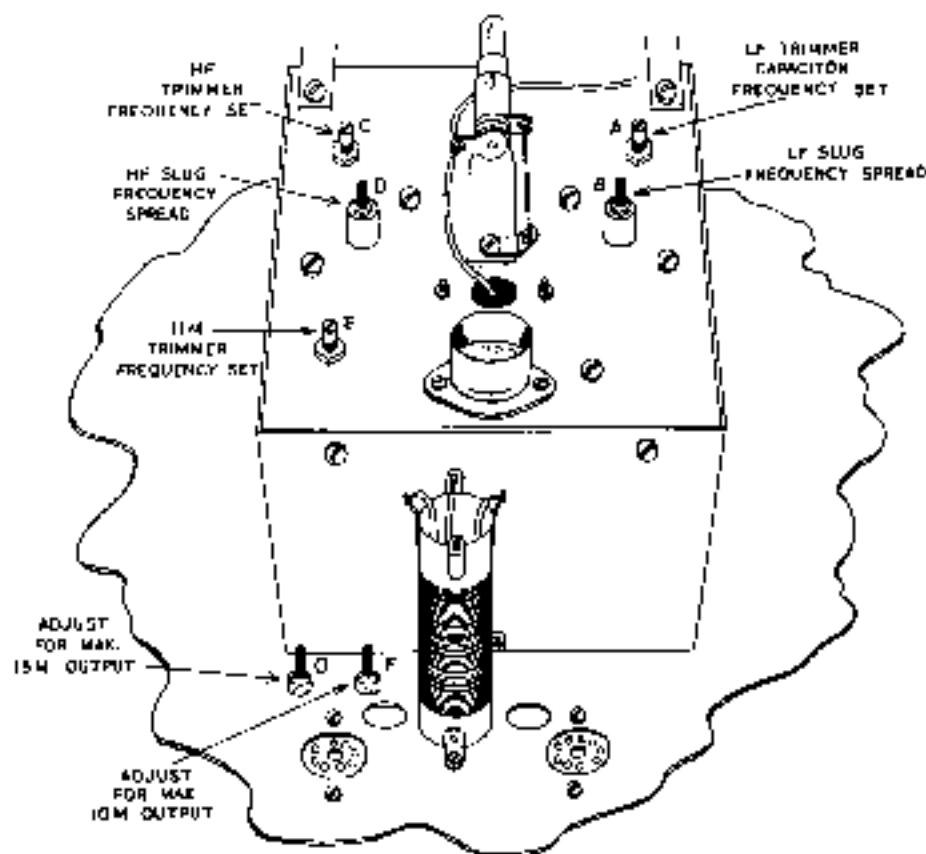

Figure 20
During the alignment procedure, the **DRIVE** control should be fully counterclockwise, the **CW-PHONE** switch should be on **CW** and the **PLATE** switch should be **OFF**. **NOTE:** If a frequency meter is used for calibration, the frequency meter signal and the **VFO** signal should be zero beat against each other in a receiver with the **BFO** off. When using crystals for calibration, set the receiver to the crystal frequency with the **BFO** on and zero beat the **BFO** in the receiver. Align the **VFO** for zero beat without changing the receiver tuning and the **VFO** frequency will be the same as the crystal frequency. Aside from this difference, the following procedure may be used for either method of calibration. Refer to Figure 20 for location and identification of the various calibrating adjustments.
**NOTE:** It should be noted that the trimmer capacitors (**A**, **C** and **E** in Figure 20) are used to set a definite frequency point on the dial, while the coil slugs (**B** and **D** in Figure 20) determine the overall frequency range covered by the dial. The capacitors are set to a particular frequency near the low end of the band and the slugs are adjusted so that the high frequency end of the band coincides with the dial reading. These two adjustments interact with each other and therefore should be adjusted alternately until optimum overall calibration is obtained.
Repeat the procedure outlined above for the higher bands. Move the bandswitch to the 40 meter position and leave all other controls the same. The receiver and signal sources (crystal or frequency meter) must operate between 7 and 7.425 mc. Trimmer C and slug D in Figure 20 operate the same on this band as trimmer A and slug B on the lower band.
Set the bandswitch to the 10 meter position and the VFO dial to 28.8 mc. Advance the DRIVE control until a grid current reading can be obtained on the meter when tuning the driver stage for a peak. Adjust slug F (as shown in Figure 20) for a maximum reading on the meter.